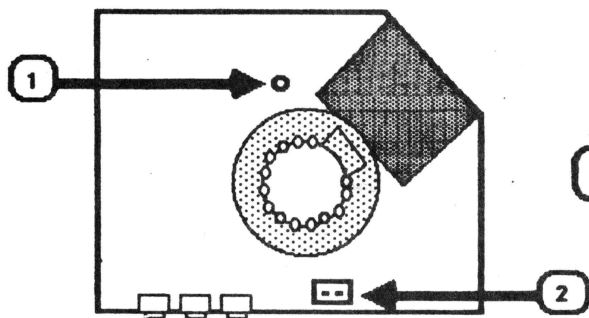

FIGURE 7
6. Disconnect the following connectors from the CRT socket board: (Figure 7.)
- a) CN16 (black) -- Figure 7, #1
- b) CN17 (blue and white) -- Figure 7, #2